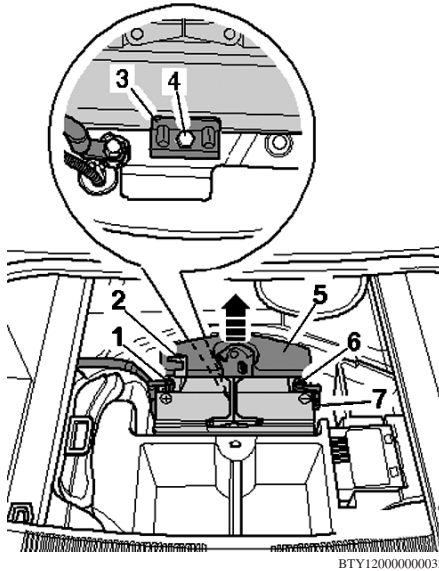

Fig. 5 Battery removal. Luggage compartment
5. Remove formed insert behind battery (5) upward (arrow), **Fig. 5**.
6. Disconnect ground terminal (6) from battery, **Fig. 5**.
7. Fold positive terminal cover (2) upward, **Fig. 5**.
8. Disconnect positive terminal (1) from battery, **Fig. 5**.
9. Disconnect central gas venting system hose (7), **Fig. 5**.
10. Remove bolt (4) from battery hold-down bracket (3), **Fig. 5**.
3. Position battery hold-down bracket (3), **Fig. 5**. Lug on battery retainer must engage in recess on battery base strip.
4. **Torque** mounting bolt (4) to 106 inch lbs.
5. Connect positive terminal (1) to battery, and **torque** nut to 66 inch lbs., **Fig. 5**.
6. Close positive terminal cover (2), **Fig. 5**.
7. Connect ground terminal (6) to battery, and **torque** nut to 66 inch lbs., **Fig. 5**.
8. Connect central gas venting system hose (7), **Fig. 5**.
9. Install formed insert behind battery (5), **Fig. 5**.